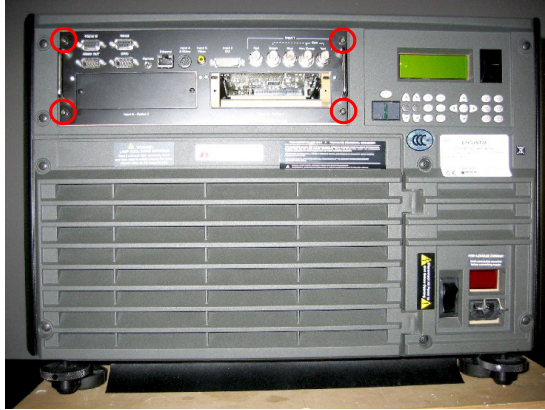

Figure 4-1 Remove Input Panel
1. Remove the input panel (TIPM) by removing four screws as shown in **Figure 4-1** and pull the panel straight out.